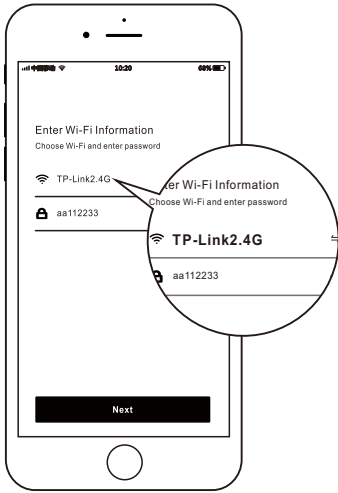

Figure 3
- Step 3. When Figure 3 appears, please select the 2.4G wireless network and enter the correct password and click Next.